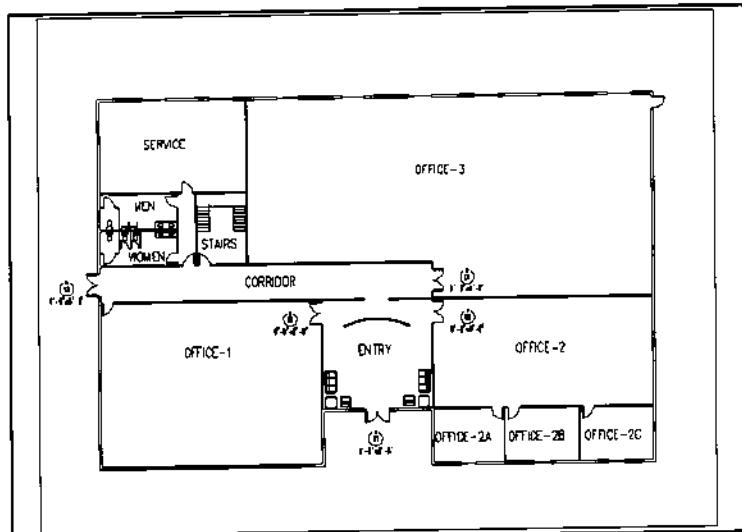

Figure 12.
1. After Door tag 01 is inserted, copy this Door tag near doors 6, 7, 8 and 13 as shown in Figure 12.
- > Second point of displacement: [**select points near doors 06, 07, 08 and 13 as shown in Figure 12**]
1. Edit the attributes for Door tags 06, 07, 08 and 13 as listed below. (The placement of these tags in Office-1, 2, 3 and Corridor are shown in Figure 12.)
4. Revise the door number and room name as shown in Figure 12 and listed below: